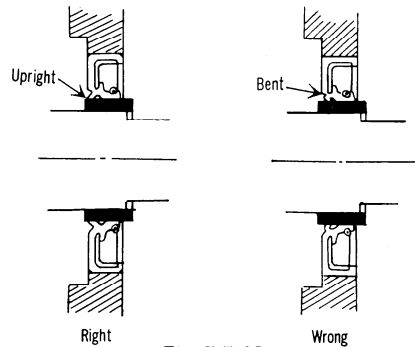

Fig. 5-5-16
12. When installing the outer valve seat, first install the primary pinion spacer and then install the outer valve seat, or the oil seal lips will be bent resulting in the compression lockage from the crank chamber. (Fig. 5-5-16)